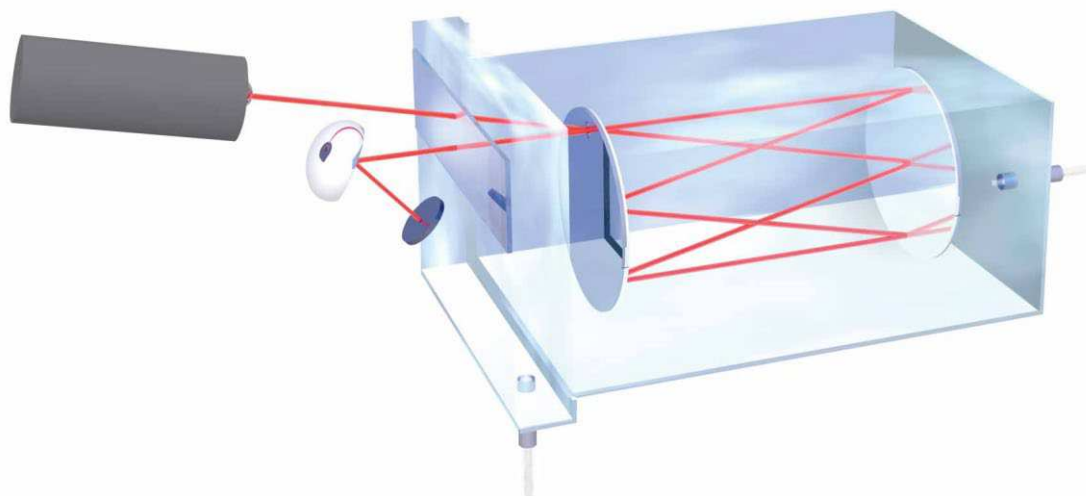

Figure 157: Herriott Cell Conceptual Drawing
The NanoTrace Moisture Analyzer uses infrared (IR) absorption as its detection method. IR absorption is a subset of the overall field of spectroscopy, which concerns analytical methods based on the interaction of light and matter. A conceptual drawing of the type of moisture cell used in the analyzer (called a Herriott cell for physicist Donald R Herriott) is shown in **Figure 157**. The cell includes a laser light source, an enclosed cavity through which the sample gas passes, a system of mirrors and a light sensor.